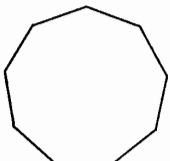

Fig. 51
44. A *Nonagon* has nine sides. Fig. 51.